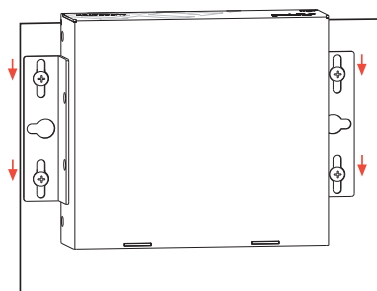

FIG. 33 Sliding the switcher onto the Wall Mount Screws
3. Align the module with the center of the double key-hole slots over the screws and slide into place as indicated in FIG. 33.